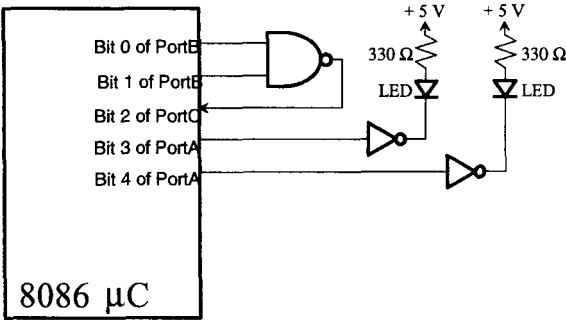

FIGURE P9.32 (Assume both LEDs are OFF initially)
- 9.32 An 8086/2732/6116/8255-based microcomputer is required to test a NAND gate. Figure P9.32 shows the I/O hardware needed to test the NAND gate. The microcomputer is to be programmed to generate the various logic conditions for the NAND inputs, input the NAND output, and turn the LED ON connected to bit 3 of port A if the NAND gate chip is found to be faulty. Otherwise, turn the LED ON connected to bit 4 of port A. Write an 8086 assembly language program to accomplish this.